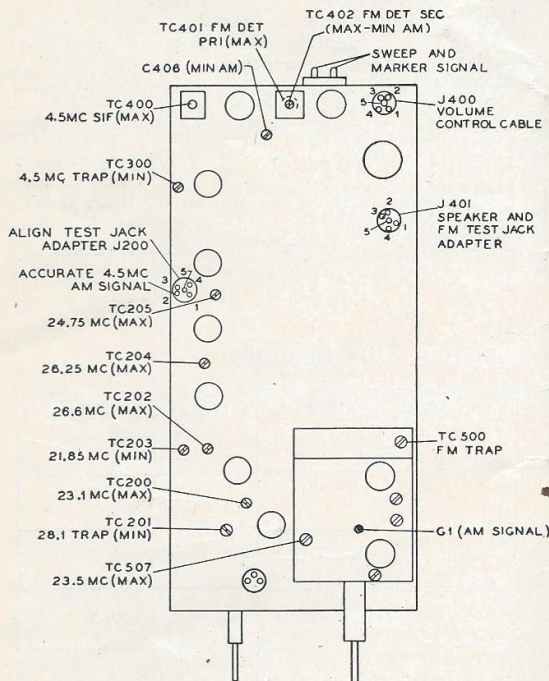

Figure 8. R-F, I-F Chassis, Top View, Showing Locations of Adjustments
1. Preset TC201 and TC203 fully counterclockwise. See figure 8. Preset TC200 and TC202 in the middle of their range.